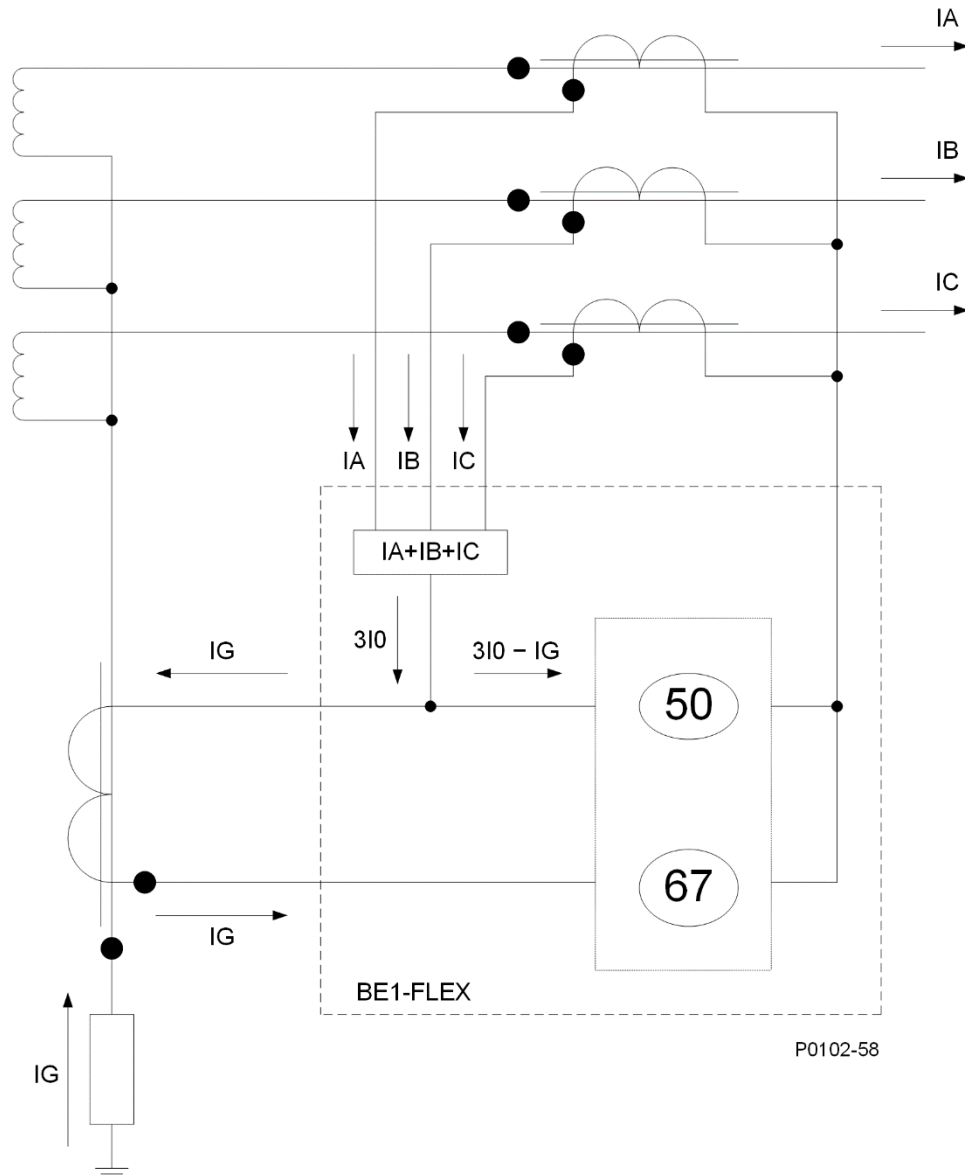

Figure 40-2. Current-Polarized Directional Scheme for BE1-FLEX CT Connection
Figure 40-2 shows the correct CT polarity to ensure proper Iop magnitude (50) and directionality (67) validation within the 87N with a CT Flip setting of “Yes”. With the assumed positive current direction, 3I0 and IG are in phase for an internal fault and are out of phase for an external fault.